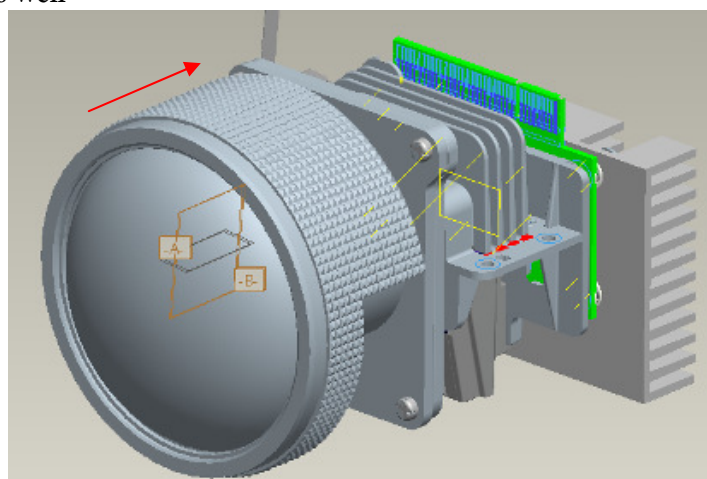

Fig.5-11
- ii. Pre-fastening Screws firstly. Screw Torque must be confirmed to be 1-2 kg-cm. (Fig. 5-11)
- iii. Fastening the Screws well. Screw Torque must be confirmed to be 6.0-7.0 kg-cm. (Fig. 5-11)